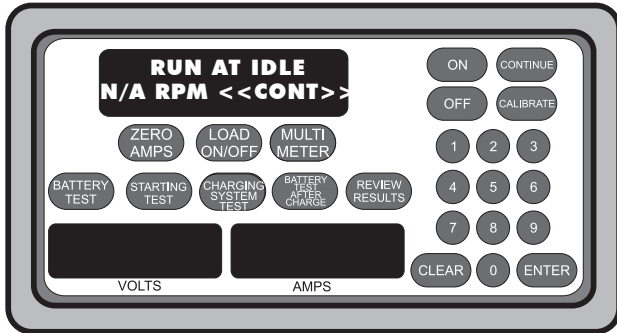

Figure 21
2. Hold the engine speed at approximately 2000 RPM until the display reads “RUN AT IDLE” (see Figure 21). Then set the engine at idle and press [CONTINUE]. The remainder of the charging test runs normally.